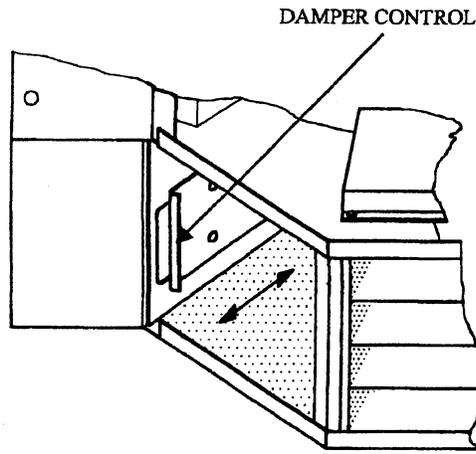

Figure 4 Operation of Fresh Air Control
2. To open the damper, slide the damper control towards the rear of the unit (see Figure 4).